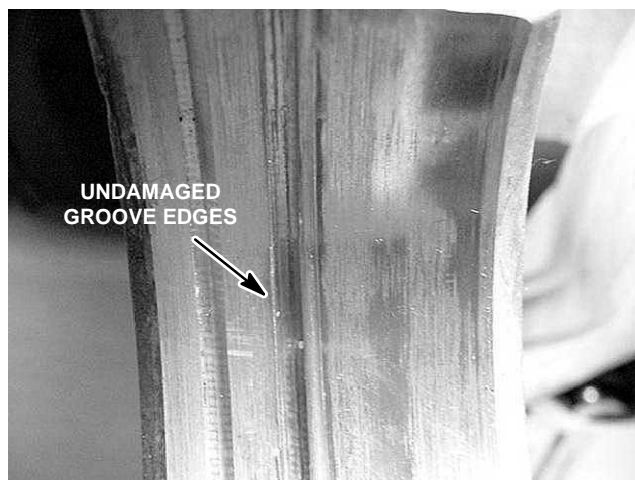

Figure 64
8. Inspect center plate for cracks and damage. Replace center plate if the retaining ring groove has more than 15% of its edges damaged due to nicks, rounding, cracks or dents (Fig. 64 and 65).